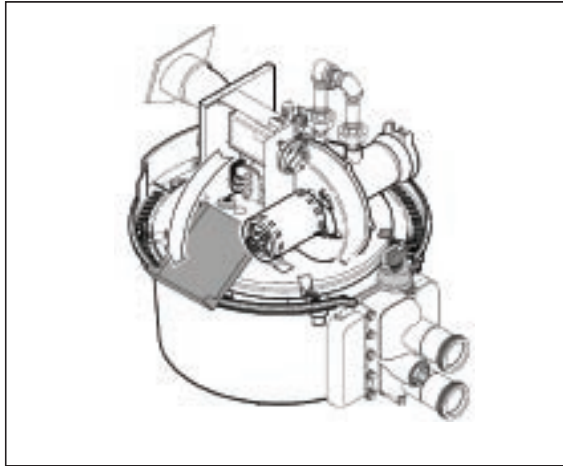

Figure 3-21
3. Open control box cover. (See Figure 3-21.)